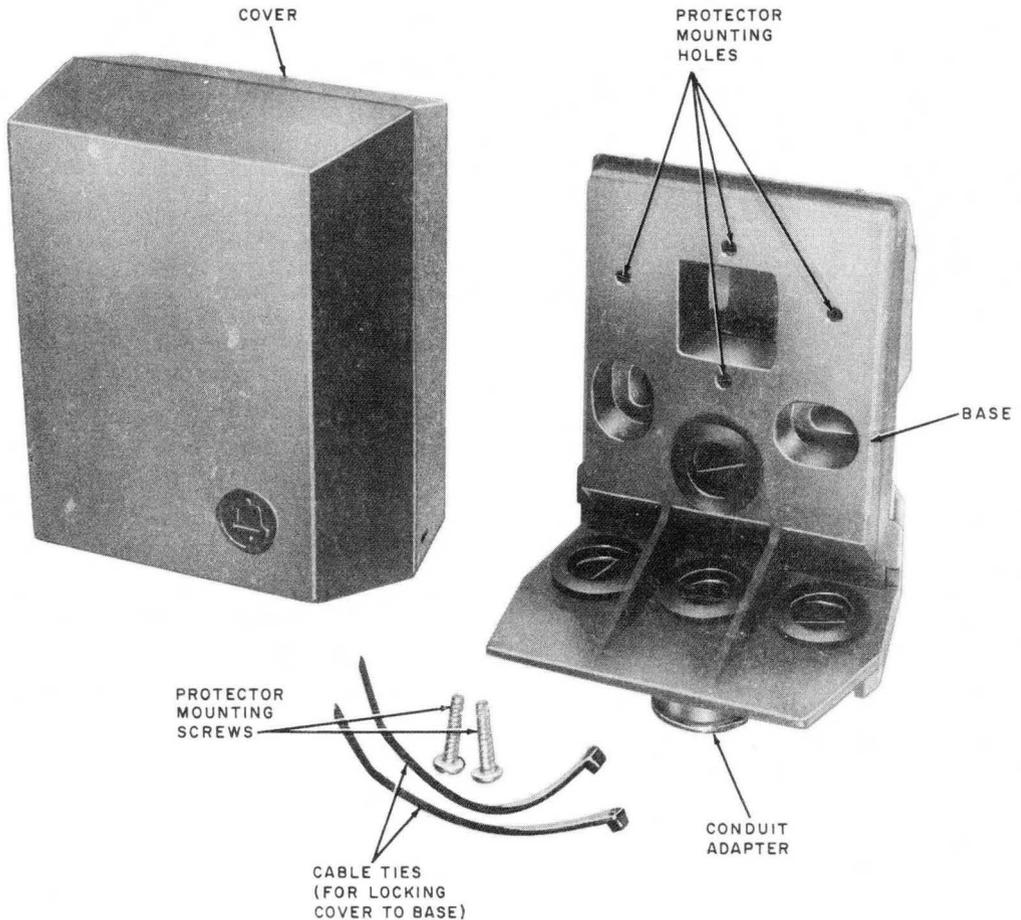

Fig. 22—B Customer Service Closure
3.26 Where the 123- or 128-type protectors are installed outside, a 150B cover (Fig. 19) is installed over the protector, or the protectors may be housed in a 93D1 (MD) (Fig. 20), a 305A2 (Fig. 21) protector mounting, or a B customer service closure (Fig. 22). The 150B cover may be used to cover protectors installed indoors when a protective covering is required.